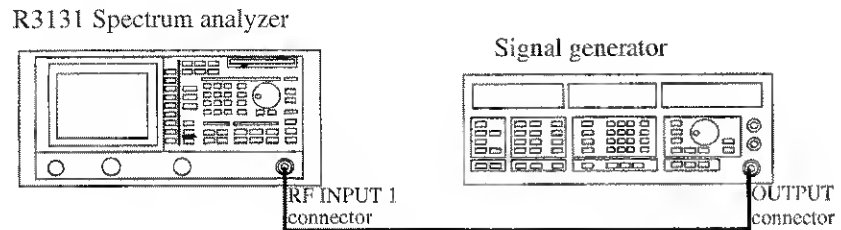

Figure 2-43 Setup for Measuring Harmonic Distortion
1. Connect the signal generator as shown in Figure 2-43.